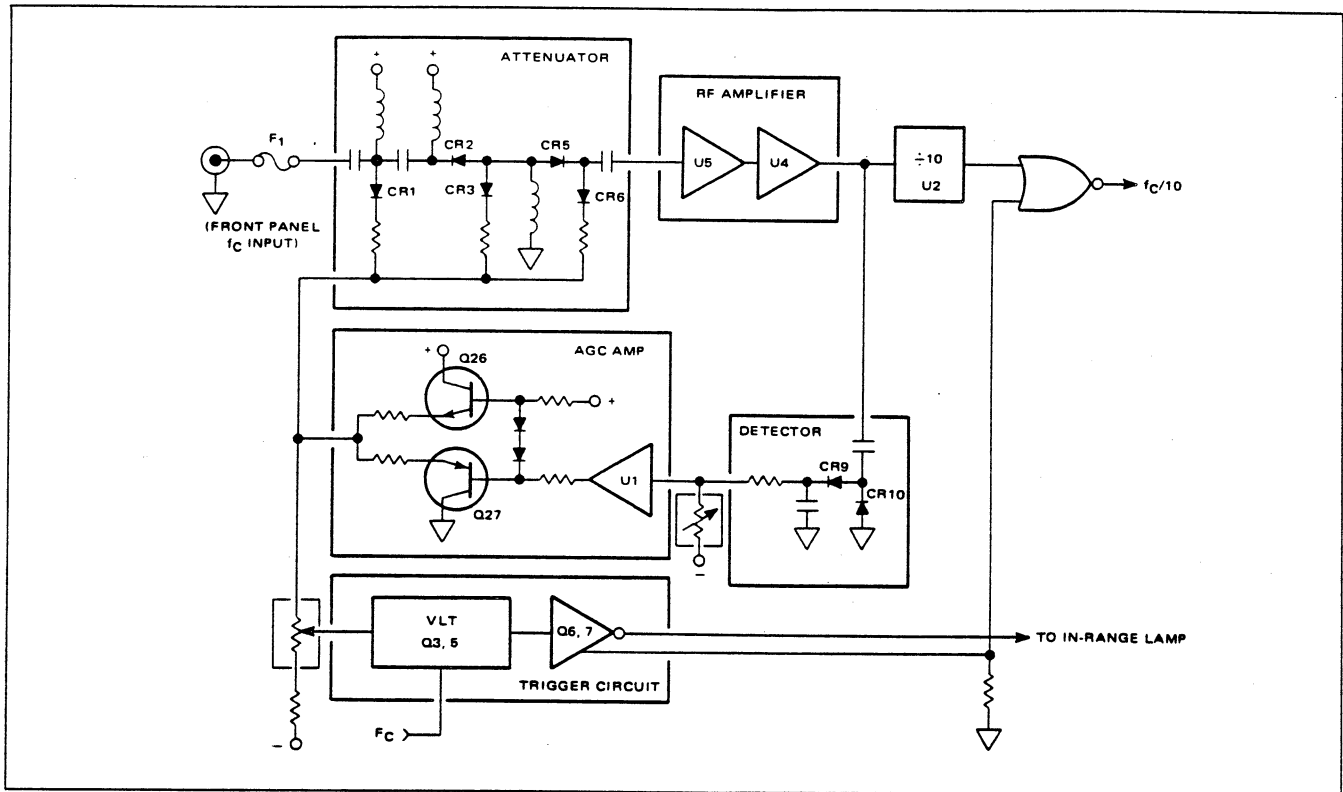

Figure 4.13 - Prescaling Amplifier,  $F_C$  (Model 9035A Only)
4.4.3.1 This circuitry (figure 4.13) automatically adjusts the amplitude of the channel C input signal to provide a suitable level for the remaining circuitry, divides the input signal frequency by ten, and generates a high,  $F_C$  logic signal when an input of the correct frequency range and of sufficient amplitude is applied to the channel C input connector. The circuitry, shown in figure 4.13, consists of an attenuator, RF amplifier, divider, detector, AGC amplifier, trigger circuit, and output signal gate.